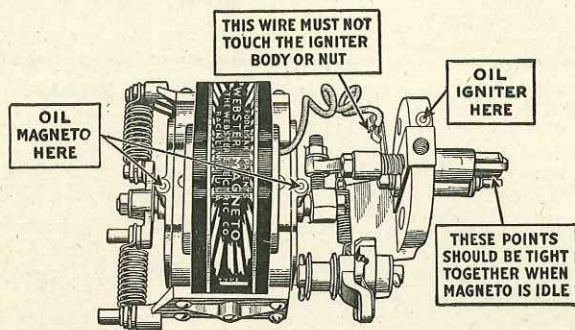
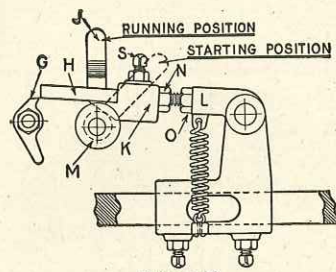

Figure 15.
Figure 16.
When attaching battery, use a make and break spark coil connected between the battery and the engine and use a switch so you can shut off the current. Attach the wire that comes from the coil to the terminal on the igniter (Figure 15) and the other wire to the bracket bolt under the magneto. Do not take off the magneto.
**Second.** Be sure timing lever "J" shown in Figure 16 is in running position, then turn the flywheels to the right until the piston starts back into the cylinder on the compression stroke, then continue to turn them slowly until the word **Spark** on the rim of the flywheel is opposite the top of the cam rod (Figure 18). This is the point at which the spark should be made.
**Fourth.** See that the screws (Figure 16) which fasten the clamp to the push rod are tight and that the one nearest the cylinder head is in the hole in the bottom of the cam rod, then adjust the length of push rod "H" (Figure 16) until the end of the rod touches the push finger "G." Tighten locknut "O".
**Sixth.** Take off the tripping lever, be sure the magneto wire is fastened to the terminal (Figure 15, page 30). Turn the flywheels to the right to see if the magneto trips off when the word **Spark** is opposite the top of the cam rod. If not, adjust the wedge "K" (Figure 16) carefully until it does. To make engine fire earlier, move wedge "K" toward magneto. To fire later, move wedge "K" away from magneto.